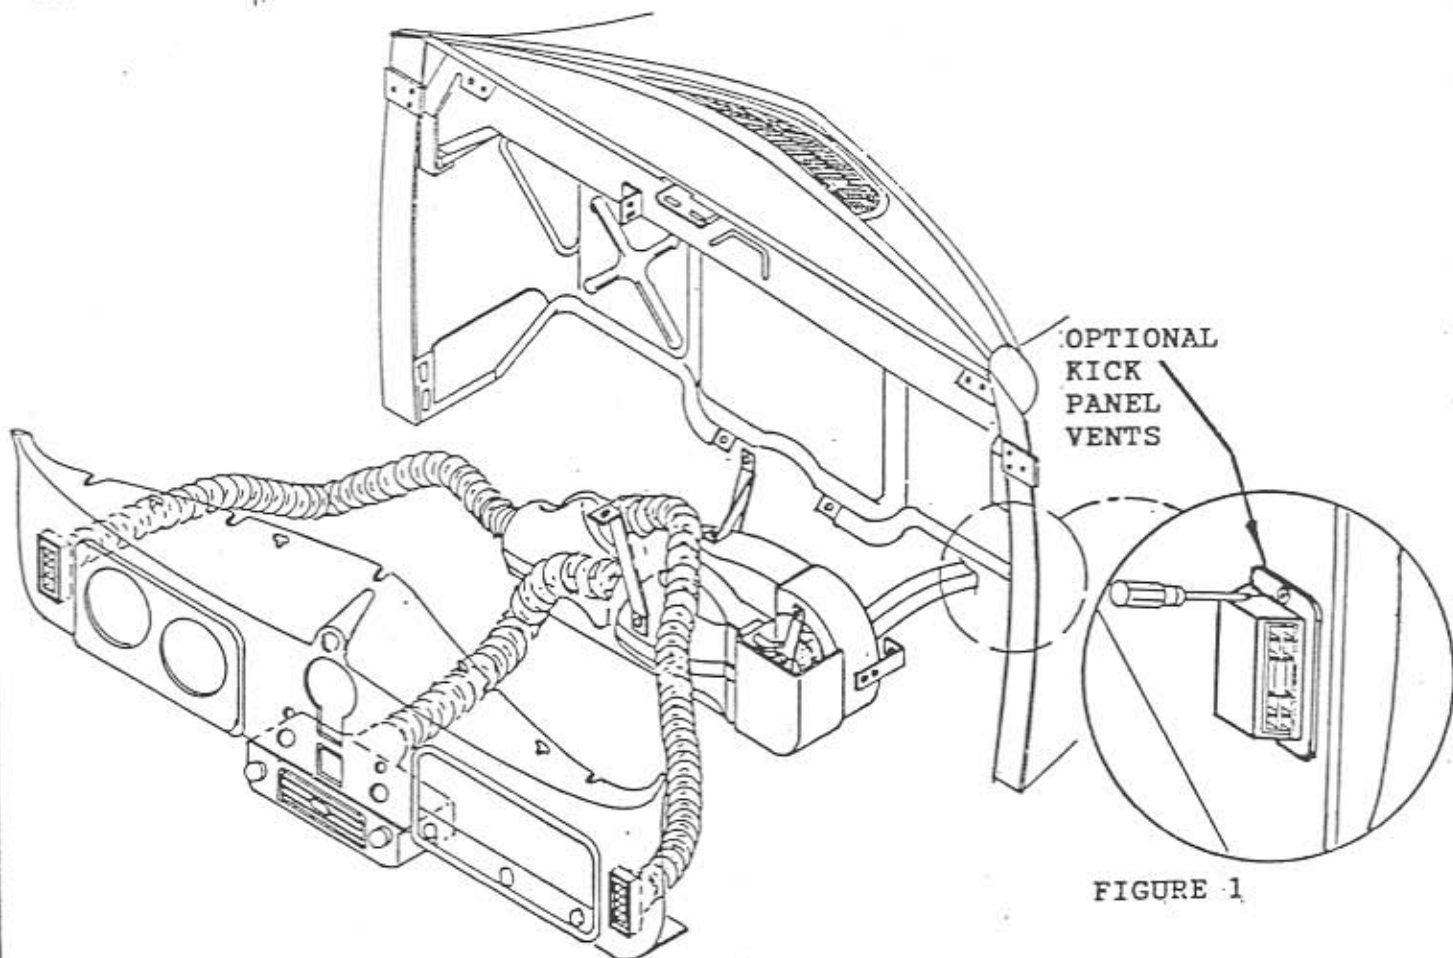

FIGURE 1
2. The evaporator should fit with blower wheel toward firewall. Duct hose outlets face upper cavity and to drivers side. Drain outlet points to driver's side and is always on bottom (down) side of evaporator. You may reverse the evaporator or change the location of the unit, however, the evaporator drain must remain on the bottom of the unit. Figure 1. If you need to relocate the drain, contact Vintage Air for instructions. □
10. Place duct hose that you have cut to length on the evaporator duct hose adapters before you finally install the unit into the car. As Figure 1 shows
17. Center outlet: You may use center panel furnished or you can mount the vents in dash. If you use the control panel the top mounting lip should be back $\frac{1}{4}$ " to $\frac{1}{2}$ " back from lower leading edge of dash. Illustration: In Figure 1